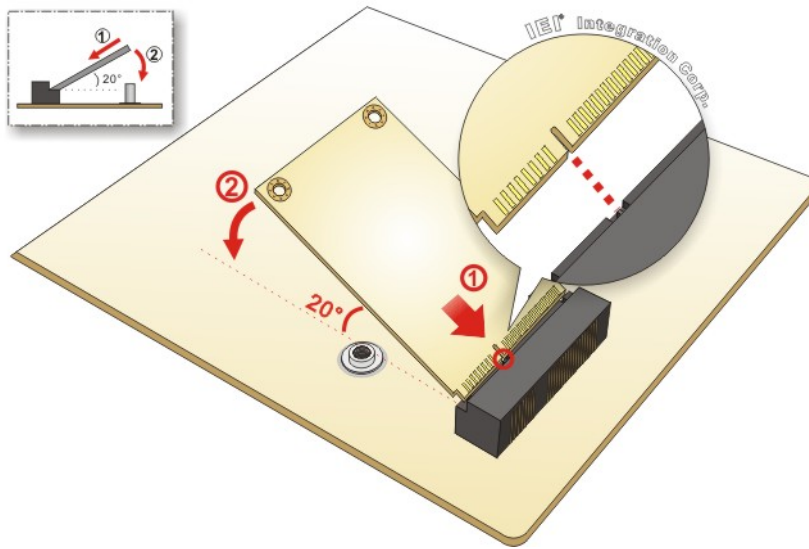

Figure 4-9: Inserting the Full-size PCIe Mini Card into the Slot at an Angle
Step 3: Insert into the socket at an angle. Line up the notch on the card with the notch on the slot. Slide the PCIe Mini card into the socket at an angle of about 20° (Figure 4-9).